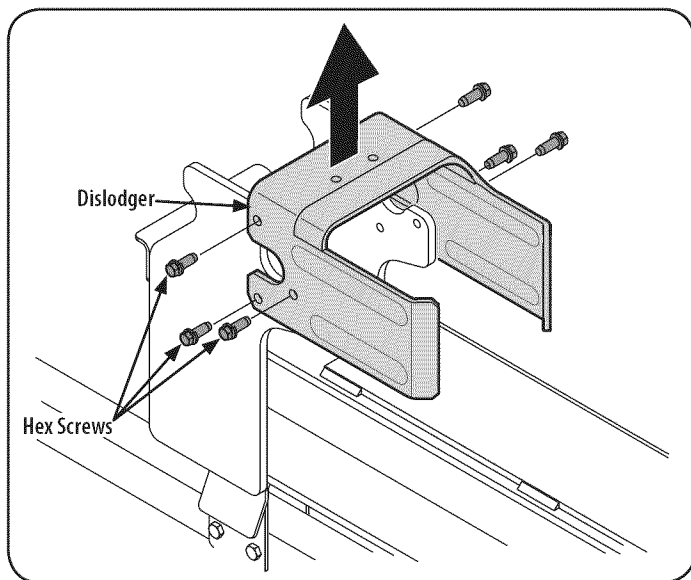

Figure 5
16. Disconnect the dislodger from the beam weld bracket by removing the six hex screws. See Figure 5.